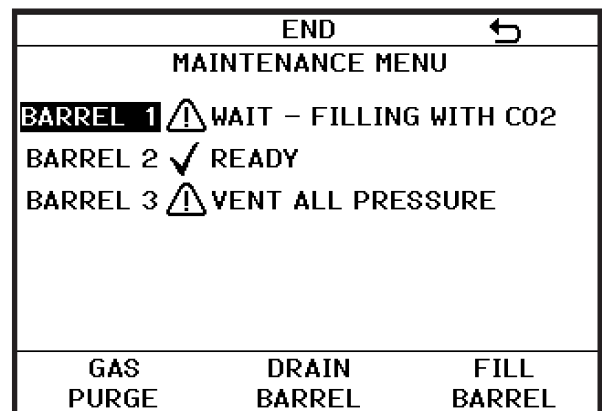

Figure 7.12
**PURGE/FILL/DRAIN BARREL** (**Figure 7.12**) – Provides three semi-automatic routines that eliminate the need to manually turn solenoids on and off. Follow the on-screen prompts to complete each process. All processes may be terminated at any time by pressing the END button.